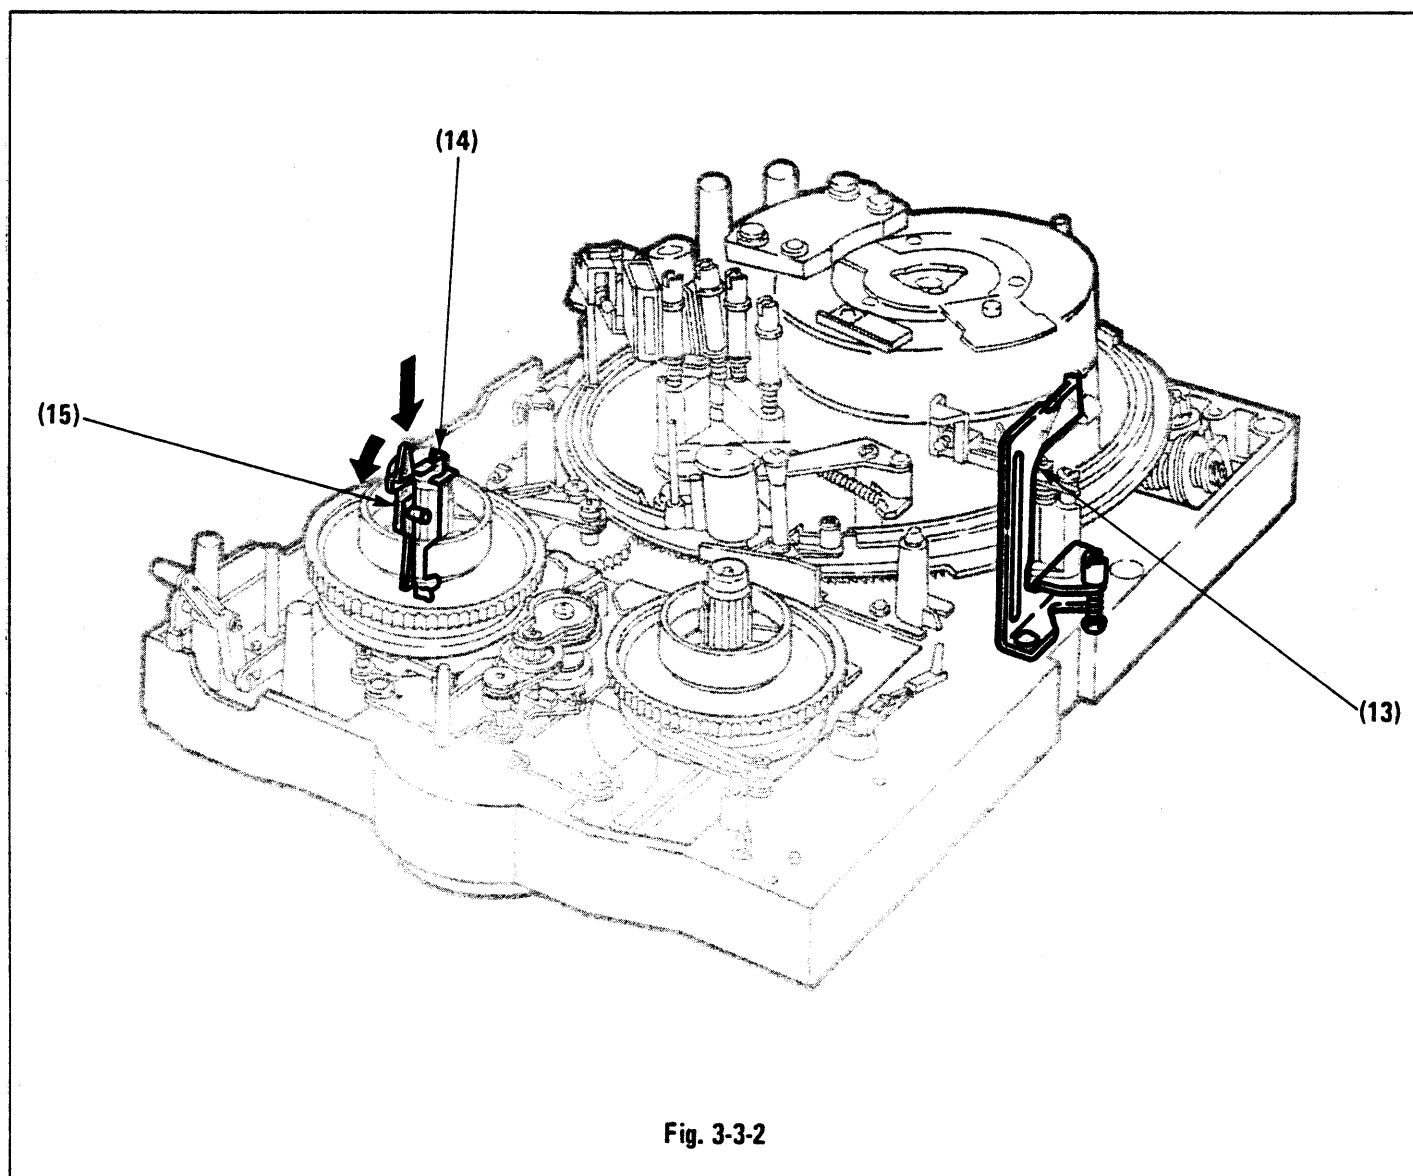

Fig. 3-3-2
When the cassette holder is pressed down into the VCR, the cassette tape lid is opened by the tape lid guide (13). As the cassette moves downward, the cassette detection slide (14) is pressed down, and, at the same time that the cassette holder is locked down by the cassette holder lock lever (15), the cassette-in switch (16) is turned on by the cassette detection slide (14), thus setting the VCR to the STOP mode. (See Figs. 3-3-2, 3-3-3.)